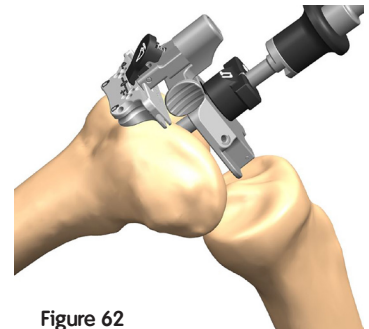

Figure 62
2. Slide the Intramedullary Rod of the alignment assembly into the femoral canal until the Valgus Guide contacts the distal femur (Figure 62).